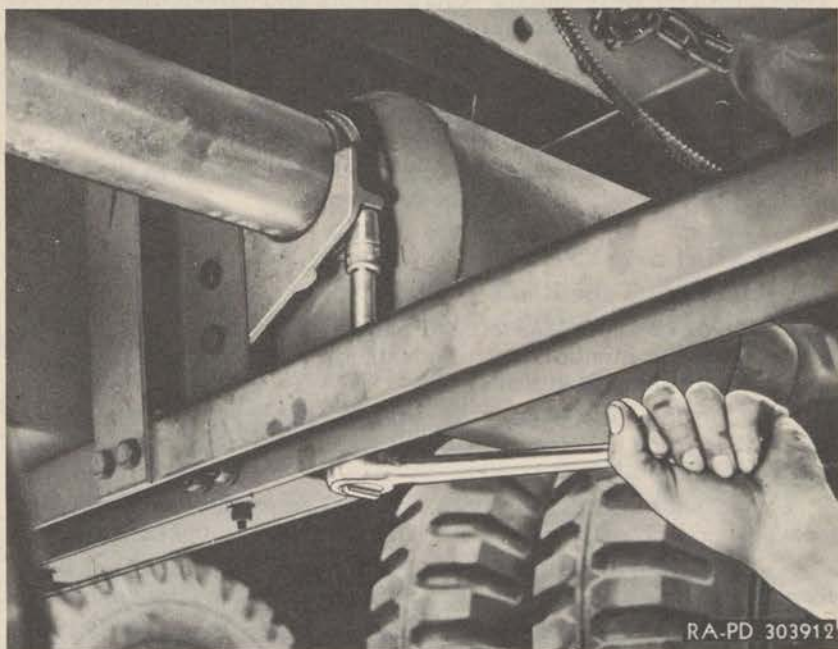

Figure 68—Removing Muffler U-bolt Nuts
(1) **DISCONNECT MUFFLER FRONT U-BOLT.** Remove the nuts and lock washers from the threaded ends of the U-bolt, and then remove it from the muffler (fig. 68).